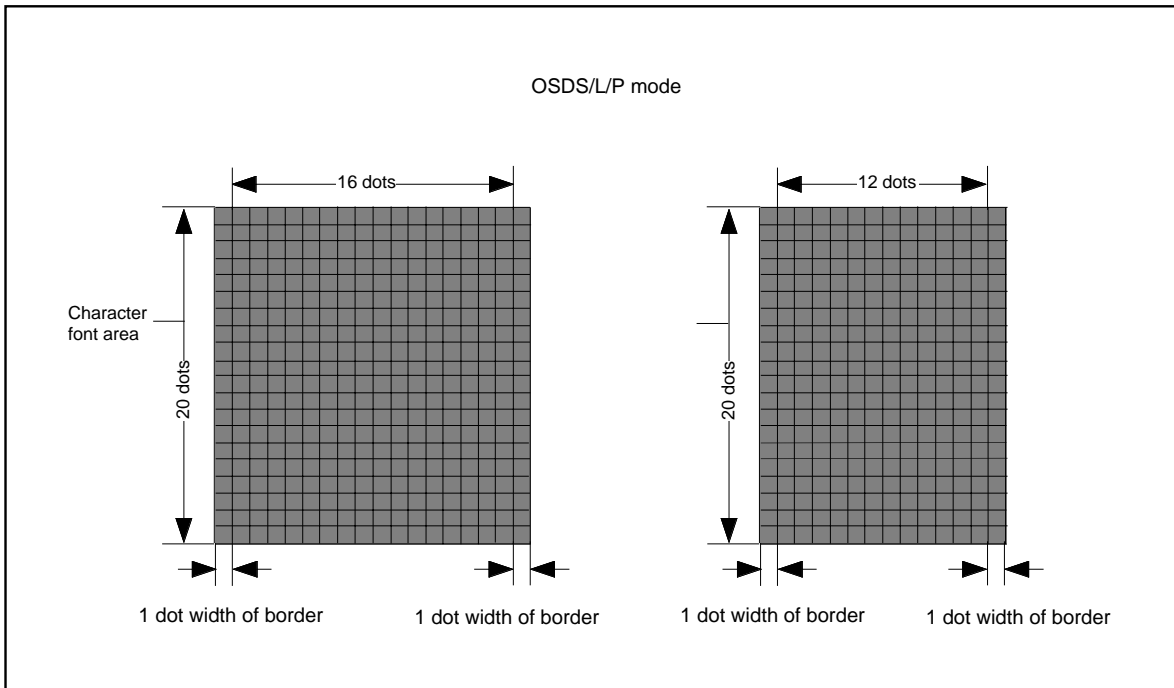

Figure 2.16.36 Border area
- Notes 1 :** The border dot area is the shaded area as shown in Figure 2.16.36.